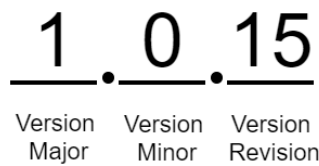

Figure 4-1: Example FW Version Format
- Bits 32 to 55 of the value contain the application revision numbers which define the FW version. The FW version is reported in the format as shown in Figure 4-1, which is shown using the example FW v1.0.15 (value 0x 01 00 0F).
- Bits 8 to 31 of the value contain the LoRa Basics modem version numbers. The format is the same as shown in Figure 4-1. This number is not to be confused with the LoRaWAN specification version according to the LoRa Alliance standards. The LoRaMAC version number is the version of the FW used by the LR1110.